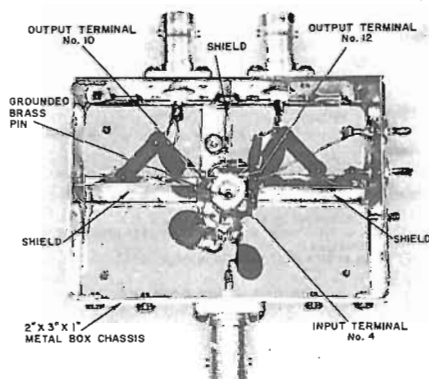

Fig. 6 - Test Circuit Layout
Stable high-frequency operation requires that proper high-frequency construction techniques be followed. The photograph of Fig. 6 illustrates the precautions taken in the construction of the test circuit of Fig. 3.
1. Use sockets only when necessary. Sockets, when used, must provide shielding within the pin circle. The socket shown in the chassis of Fig. 6 is a Barnes MG-1201, or equivalent, modified by drilling a $1/8$ " hole in the center and inserting a grounded brass pin.